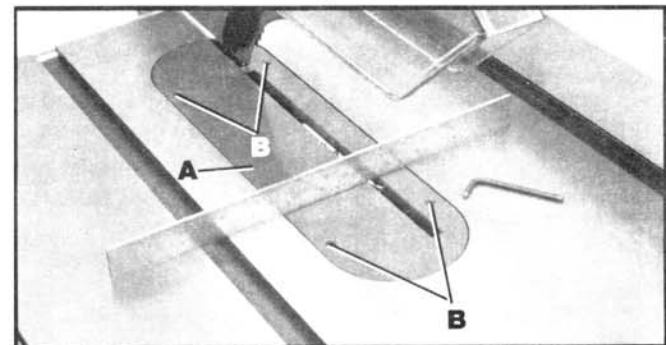

Fig. 52
Place a straight edge across the table at both ends of the table insert as shown in Fig. 52. The table insert (A), should always be level with the table. If an adjustment is necessary, turn the adjusting screws (B), as needed. Four adjusting screws (B) are supplied in the table insert.